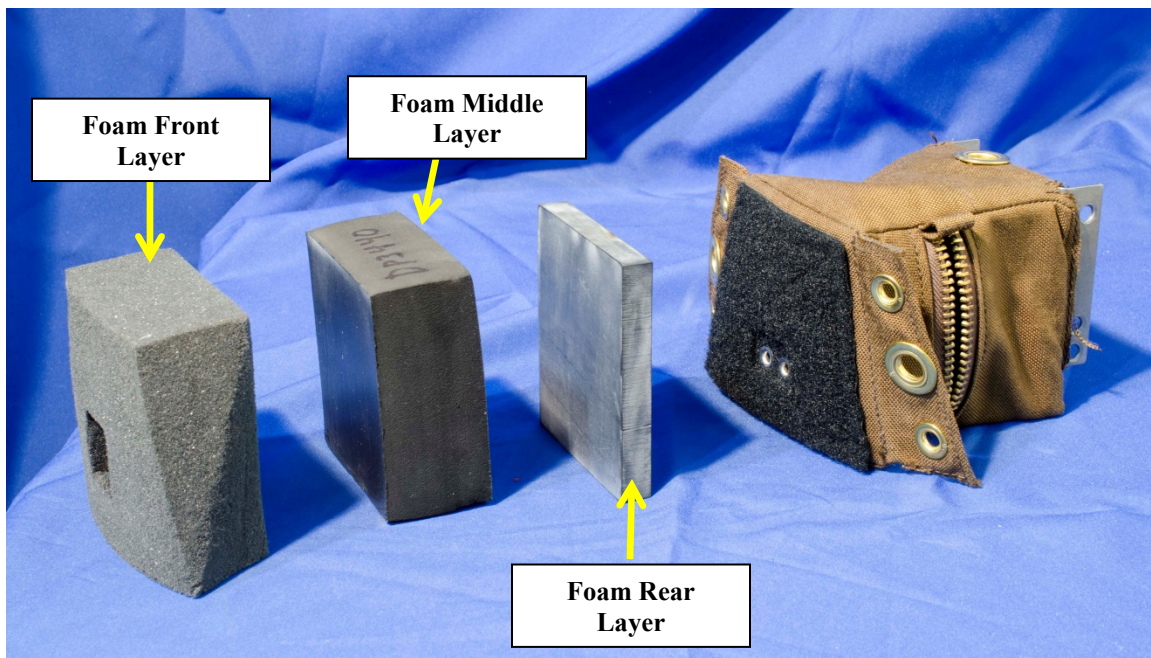

Figure 8-5. Insert internal rear and middle foam into upper abdomen bag
- 8.2.2.2 Insert the Internal Foam Rear Layer (472-4621) into the bag (Figure 8-5). Ensure that the orientation of the layer matches the dimensions of the Internal Mounting Plate. Next, install the Internal Foam Middle Layer (472-4622) over the rear foam.